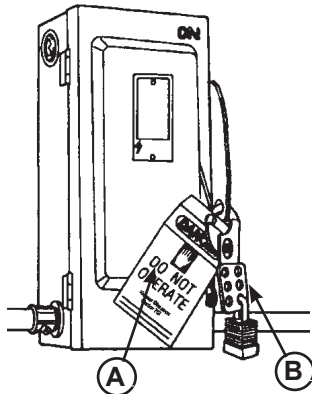

Figure 21
When working with electrical or electronic controls, make sure that the power source has been tagged (A) and locked out (B) according to OSHA regulations and approved local electrical codes (see **Figure 21**).